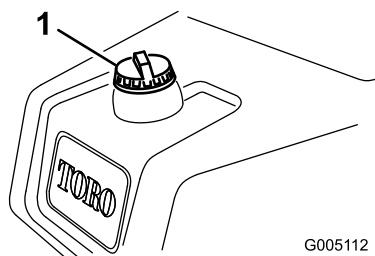

Figure 23
1. Clean around the fuel tank cap (Figure 23).